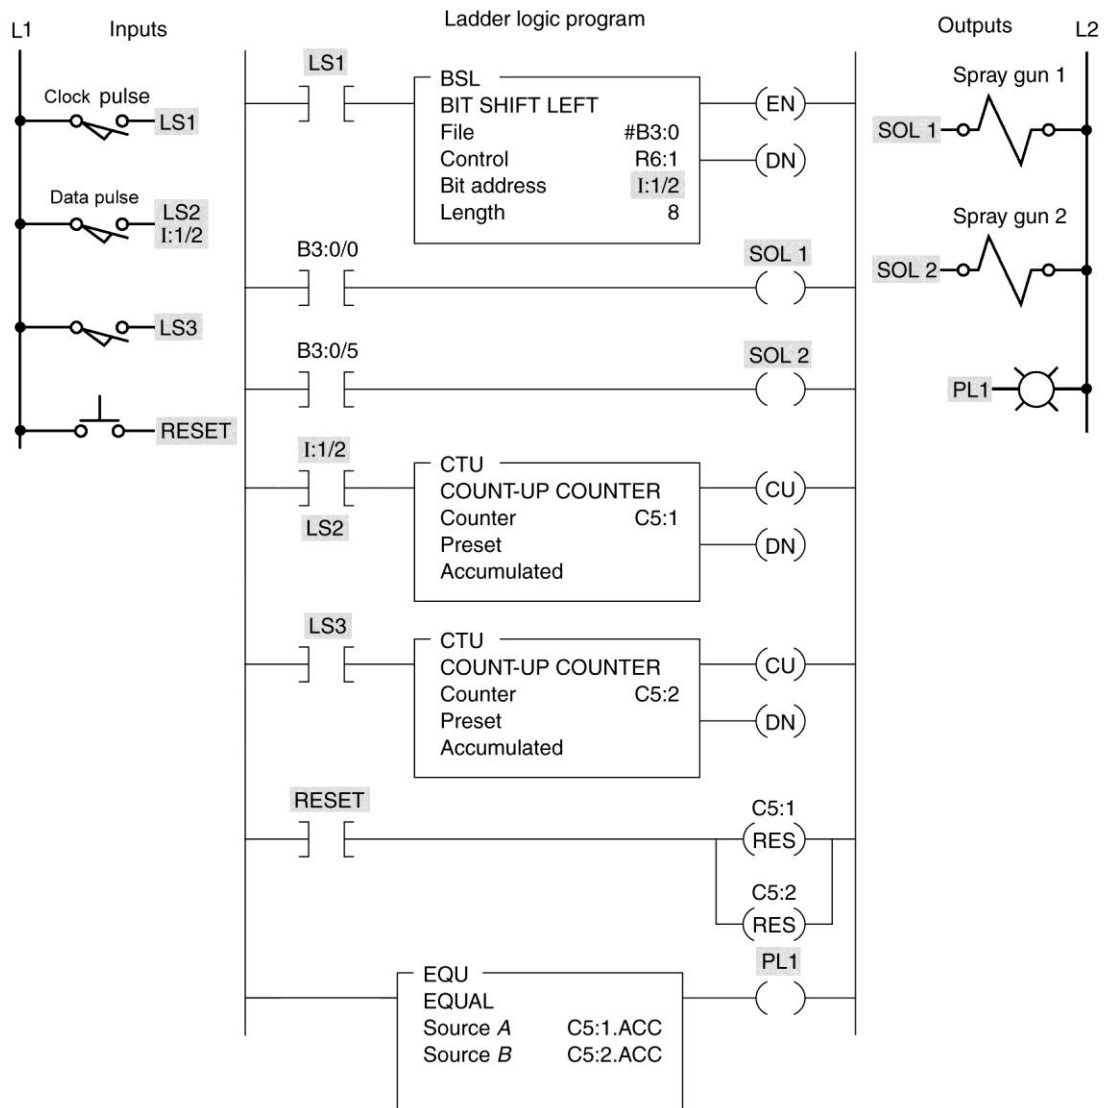

Figure 12-30 Spray-painting program for assignment 13.
13) The spray-painting program of Figure 12-30 is described in the text. Prepare an I/O connection diagram and ladder logic program that will simulate its operation. Use addresses that apply to your PLC installation. Enter the program into the PLC, and verify its operation.